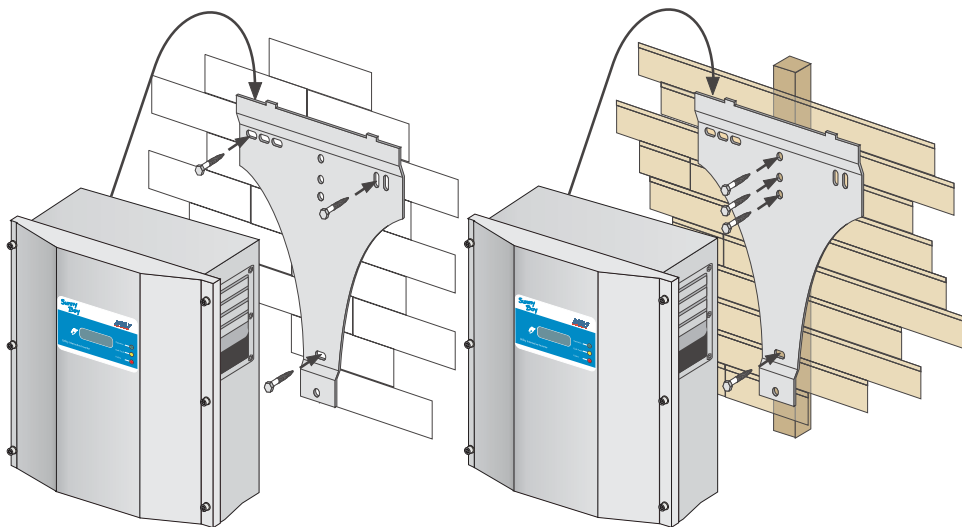

Figure 3-4 Sunny Boy 6000U with Mounting Bracket
The Sunny Boy 6000U is shipped with a T-shaped wall-mounting bracket that is suitable for use with most walls (see Figure 3-4). The horizontal part of the bracket has five holes spaced on 16-inch centers for mounting on wooden stud walls. Make sure that the wall you choose to mount the Sunny Boy on is sturdy enough to support its weight (63 kg/ 141 lb.) over a long period of time and that the wall is plumb. The bracket may also be mounted on stone, brick or solid walls. Be sure to use the appropriate type of mounting hardware for the wall material and ensure that the hardware is no smaller than 1/4".
5. Insert the screws through the holes in the wall-mounting bracket and into the holes you drilled in the wall. Tighten the screws until the bracket is held firmly against the wall (see Figure 3-4). Do not overtighten the screws.
6. Carefully lift the SB6000U onto the mounting bracket. There are a pair of metal channels welded to the back of the SB6000U. These brackets sit on the pair of tabs on the top edge of the mounting bracket. Mount the SB6000U so that it hangs on these tabs. (see Figure 3-4).
8. Replace the hex screw through the hole in the mounting strap and into the threaded hole in the bottom end of the wall-mounting bracket (see Figure 3-4).